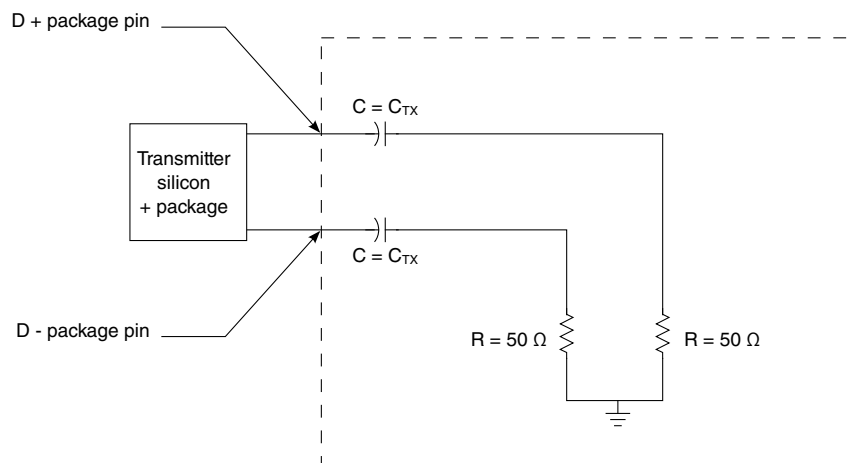

Figure 40. Test/measurement load
1. Specified at the measurement point into a timing and voltage test load as shown in Figure 40 and measured over any 250 consecutive transmitter UIs.
Notes: 1. Specified at the measurement point into a timing and voltage test load as shown in Figure 40 and measured over any 250 consecutive transmitter UIs. 2. The chip's SerDes transmitter does not have C _{TX} built-in. An external AC coupling capacitor is required. 3. For recommended operating conditions, see Table 3 .
1. Specified at the measurement point and measured over any 250 consecutive UIs. The test load in Figure 40 must be used as the receiver device when taking measurements. If the clocks to the receiver and transmitter are not derived from the same reference clock, the transmitter UI recovered from 3500 consecutive UI must be used as a reference for the eye diagram.